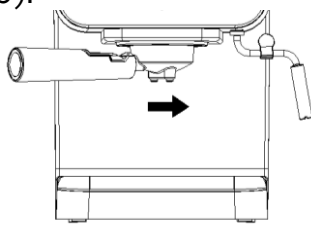

Fig. 4
6. Move the handle firmly to the right (as shown in the diagram) until it is aligned with the 'locked' padlock symbol (fig. 4 & 5).